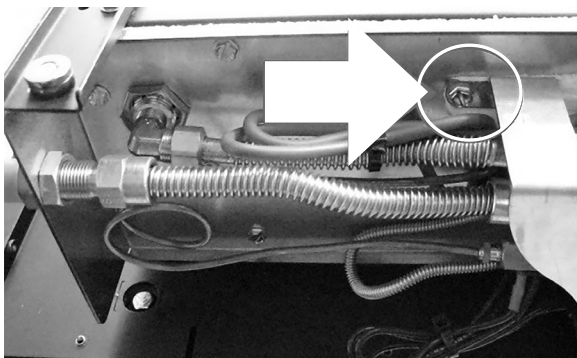

Figure 1
1. The burner is held in place by 4 sheet metal screws, 2 on the left and 2 on the right. To make access to these screws easier, we are going to loosen the valve bracket so it can be moved slightly. **Figure 1** shows the screw on the left under side of the firebox securing the back of the valve bracket, remove this screw. Keep this screw in a safe place as it will be needed to secure the valve bracket again once the logset burner is installed.